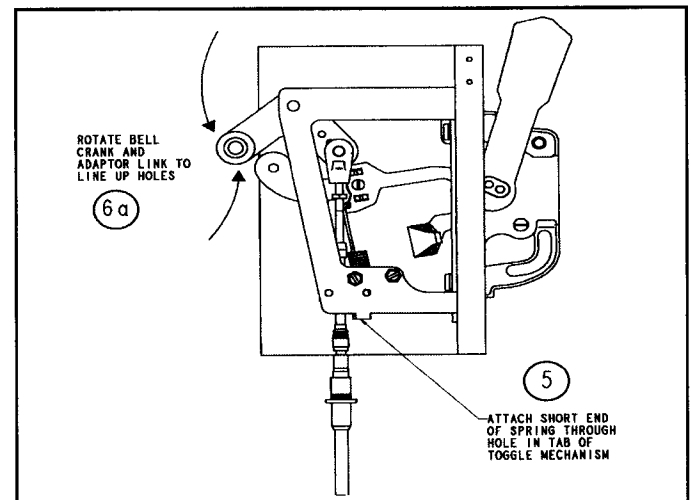

Fig. 1-5 Assembly of Spring to Toggle Mechanism
5. Hook the shorter end of the spring into the tab on the lower portion of the toggle mechanism. See Fig. 1-5 for location.
6. Align adaptor link with bell crank. Attach adaptor link to bell crank using the shoulder bolt and nut. Fasten securely ... Do not Overtighten. See Fig. 1-5 & 1-6.